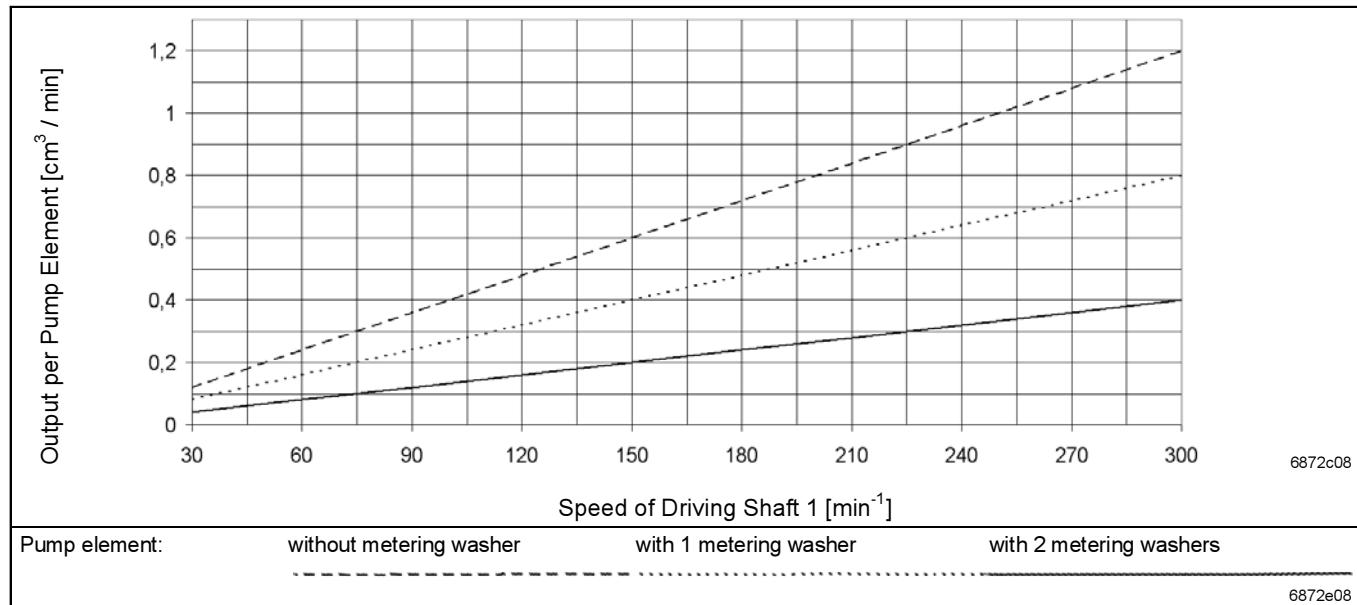

Fig. 12 Outputs per pump element with driving shaft 1, Ratio 1 : 19,53
See Fig. 12 and 13.
- ⦿ Adapt metering volume accordingly (see Fig. 12 and 13):
The output of a pump element depends on the number of metering washers installed and the speed of the drive shaft (see Fig. 12 and 13).